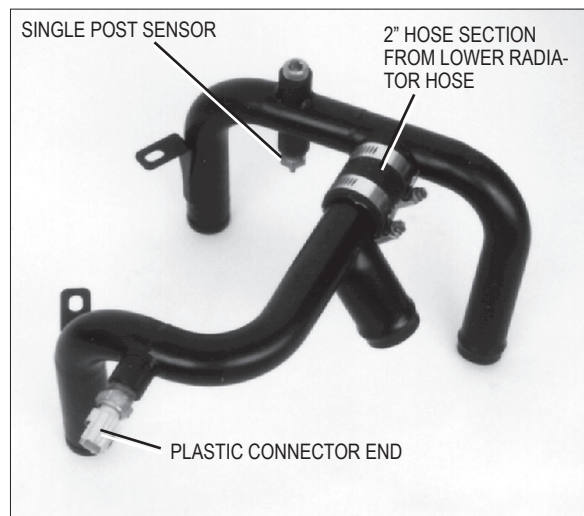

Fig. 8-a
- A. Remove the upper radiator hose from the radiator and modify (cut) as shown in Fig. 8-c on page 16.
- C. Following Fig. 8-d on page 16, pre-assemble the Vortech supplied "L" and "U" bend water tubes using the 2" hose section removed in point 8-B and the supplied #20 clamps. (Do not tighten clamps until assembly is mounted on the engine.)
- D. Thread the two factory coolant temperature sensors into the Vortech water tubes using pipe thread sealant on the sensor threads. Make sure that the single post sensor is installed into the underside of the "U" bend and the sensor with the plastic connector is put on the "L" bend side (see *Figs. 8-c, 8-d* on page 16).